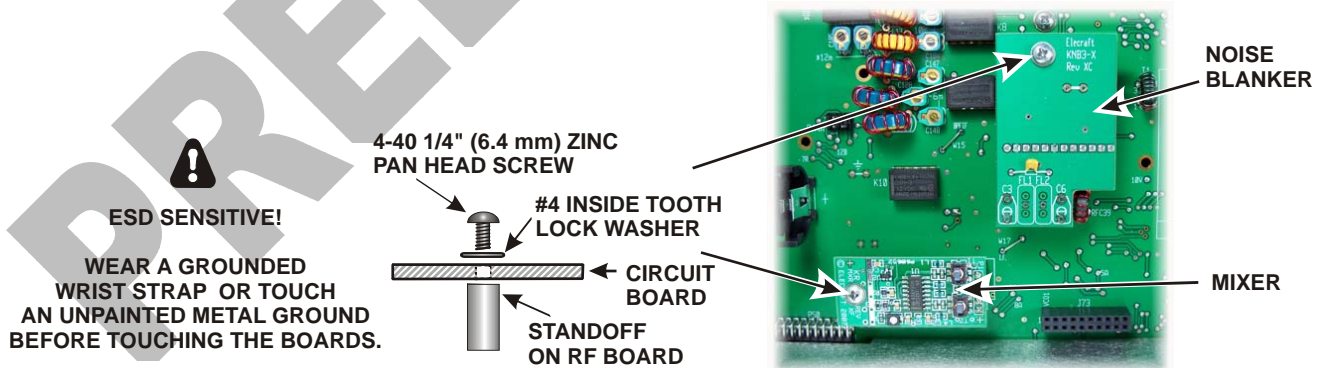

Figure 15. Installing KR MXR Mixer and KNB3 Noise Blanker Boards.
□ Mount the KRMXR mixer and KNB3 noise blanker boards on the RF board as shown in Figure 15. The mixer plugs into Z1 and the noise blanker plugs in J77 on the RF board. When mounting the boards, do not try to mate the connectors fully. Mate the connectors only as far as necessary for each board to be parallel to the RF board when resting against its mounting standoff.